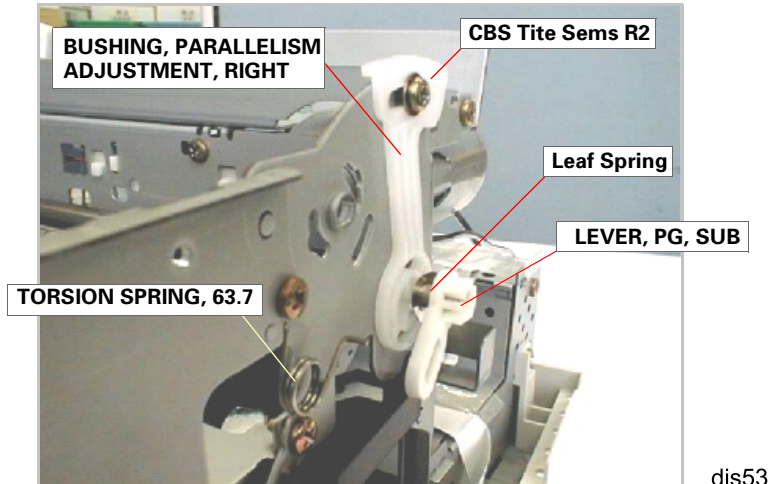

Figure 4-49. LEVER, PG, SUB Removal
- When installing the Leaf Spring (6.2x 0.15x11), set it with its convex side facing inward. Refer to Figure 4-49.